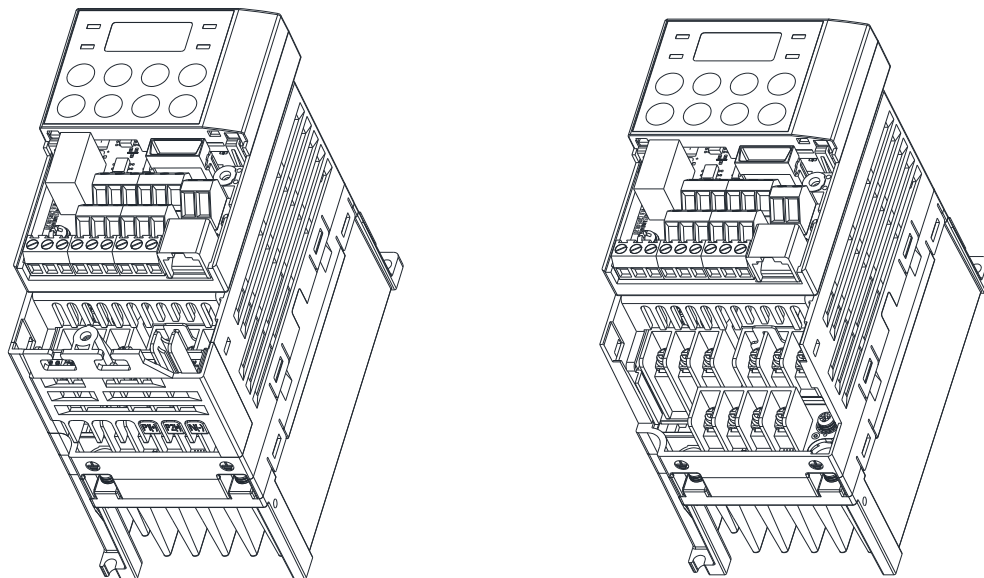

Figure 1. Remove I/O Cover and Cable Guide
- ① Remove the I/O cover and cable guide from the inverter as shown in the Figure 1.